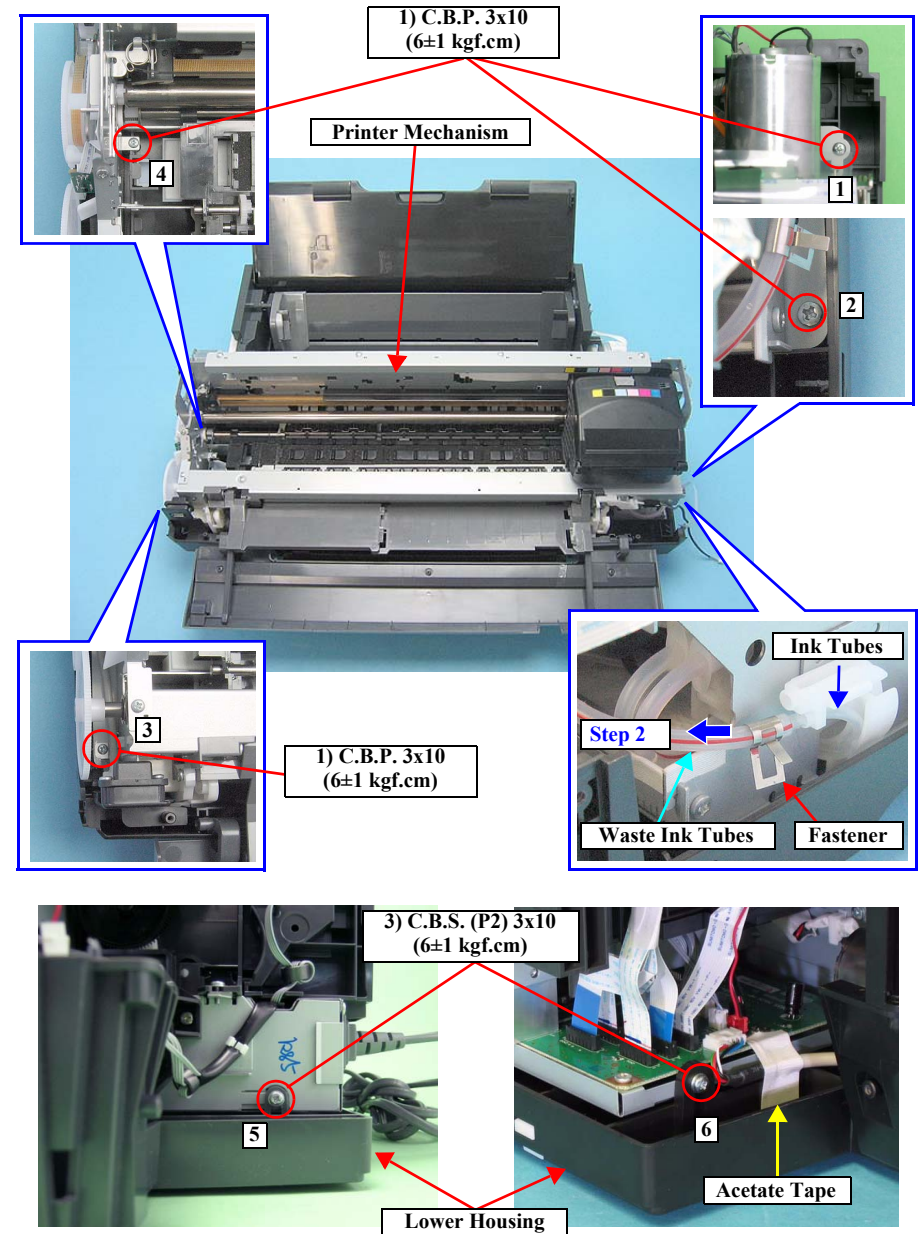

Figure 4-17. Screws that Secure the Printer Mechanism
- Tighten the screws in the order shown in Figure 4-17.